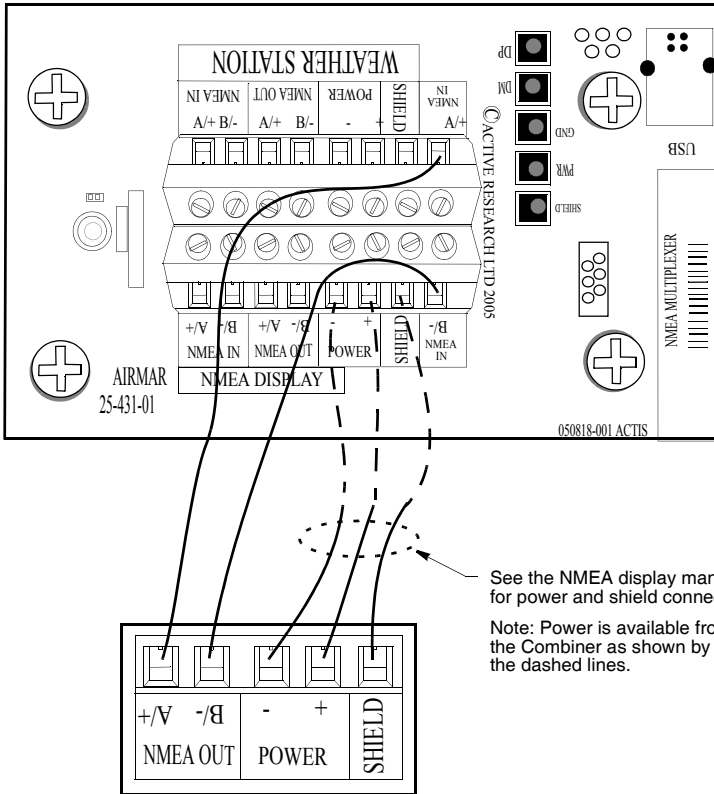

Figure 12. Wiring diagram to connect an external sensor
9. Connect each wire in turn into the designated NMEA IN terminal. Loosen the screw, insert the stripped end of the wire into the square hole and retighten the screw. *Be sure the stripped end of the wire is inserted up to its insulation only. Do not include any insulation inside the terminal. Gently tug on the wire to ensure that it is securely fastened. Repeat this process until all the wires are connected. Refer to the owner's manual that came with the sensor and the wiring diagram below (see Figure 12).*